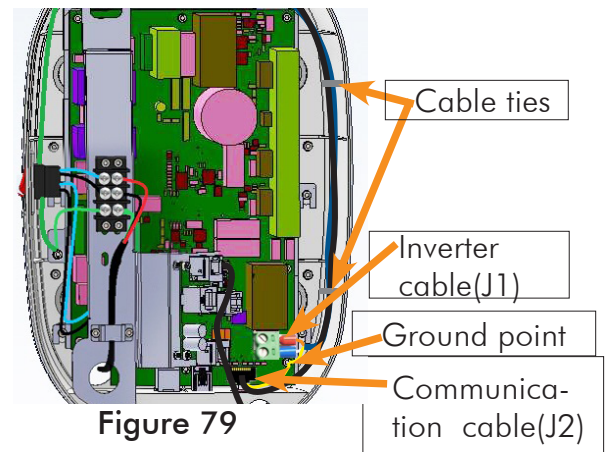

Figure 79
- Connect the Inverter power cable from J1 connector(Non-polarised) using screw driver and communication cable to J2 connector on the power board as shown in Figure 79 .
- Fix the GND wires of both the cables by fixing M3x6 HSHC screws using 2.5mm allen key as shown in Figure 79 .
- Route the cables as shown in Figure 79 along the right inner side of the Base Unit. Use new Cable ties to fix the cables on the existing cable mounts & cut the extra length of cable ties using a cable tie cutter.